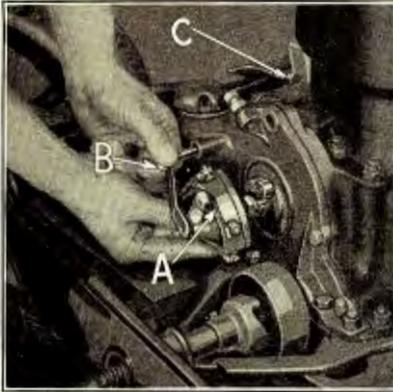

Fig. 95
- (a) Position commutator case (See "A" Fig. 95) into recess in cylinder front cover.